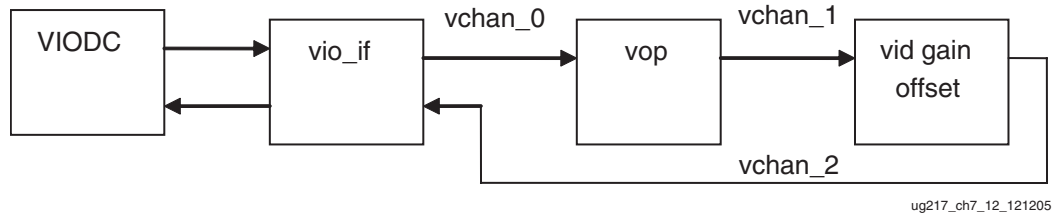

Figure 6-11: Pcore Wiring with `vid_gain_offset` Pcore Inserted into Video Pipeline
- After configuring the pcore port names, the video buses between the pcors should be wired as shown in Figure 6-11.